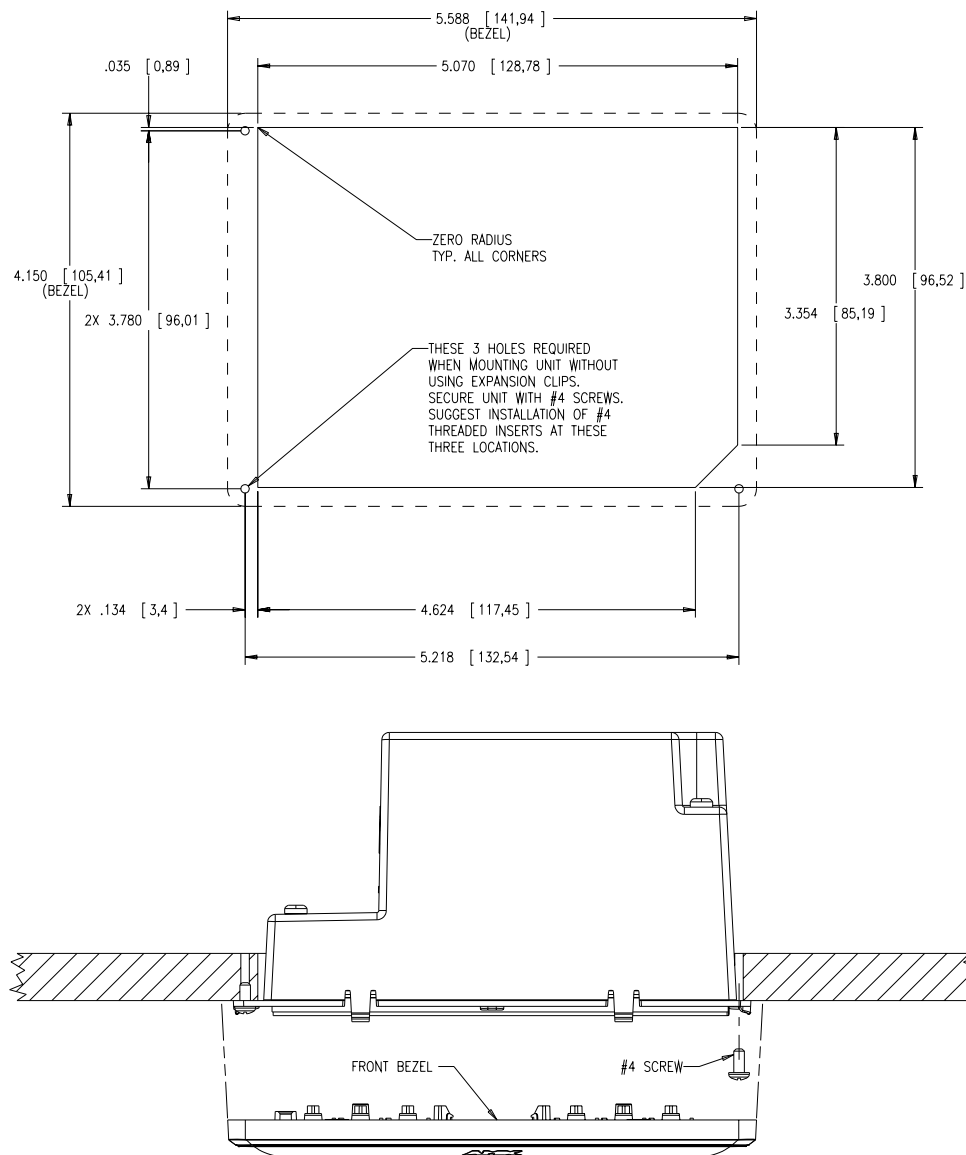

FIG. 20 NXD-CV5 Wall Mount panel dimensions using #4 mounting screws
- Refer to **SP-2261-02** for detailed installation dimensions (reproduced in FIG. 20).
2. Cut out the surface for the NXD Wall Mount unit using the dimensions shown in FIG. 20.